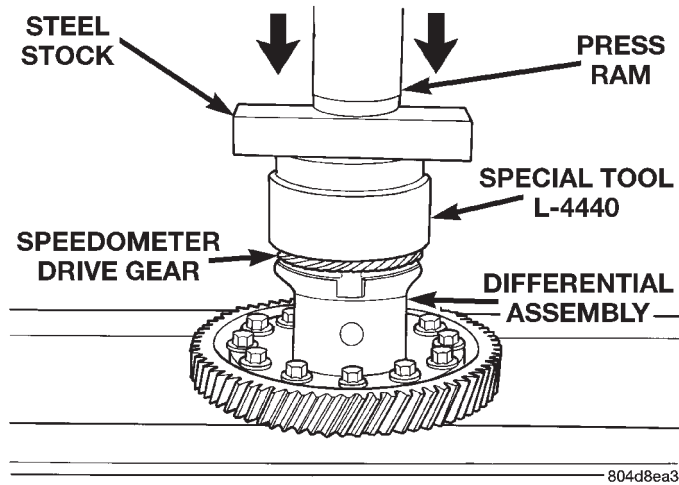
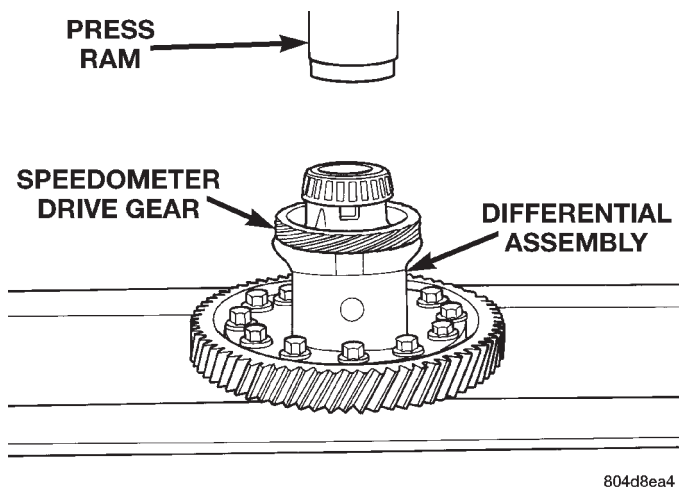

Fig. 115 Press Gear onto Differential
Fig. 116 Drive Gear Pressed onto Differential
(2) Using Miller Tool # L-4440 and steel stock, press speedometer drive gear onto differential (Fig. 115) (Fig. 116). Do not use a hammer.